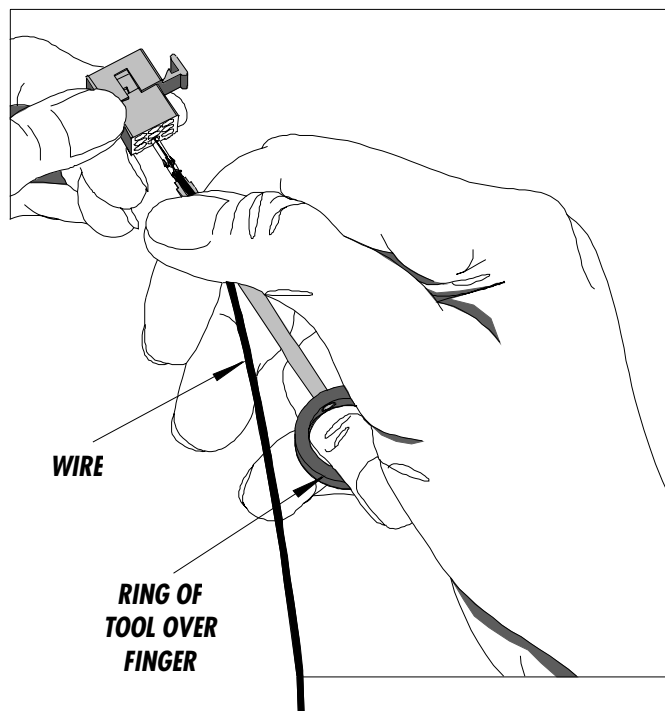
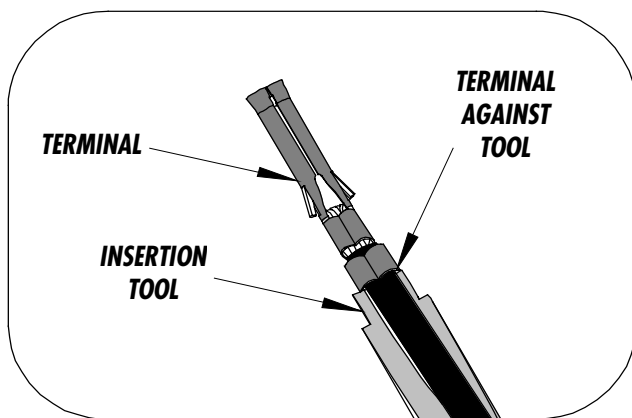

Figure 1
Figure 2
- 1) To properly use this tool, with the flat side facing up, place the ring over the ring finger past the first joint (See Figure 1). Place the wire in the groove of the tool so that the terminal is touching the end of tool (See Figure 2).*